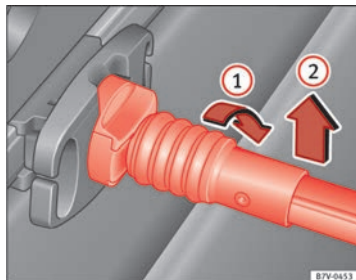

Fig. 98 Release the baggage net
- Rotate the attachment rod 90° to the right ⇒ Fig. 98 ① until you can see the red mark on the rod. Pull the attachment rod upwards ②.